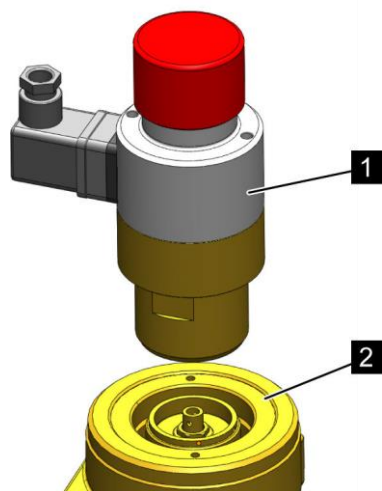

Fig. 24: Screwing on the release device
5. ➤ Screw the electric release device (Fig. 24/1) onto the valve (Fig. 24/2) of the associated extinguishing agent container and tighten with $50 \pm 15 \text{ Nm}$ ($36.878 \pm 11.063 \text{ lb}\cdot\text{ft}$) until it metallically rests on the valve.